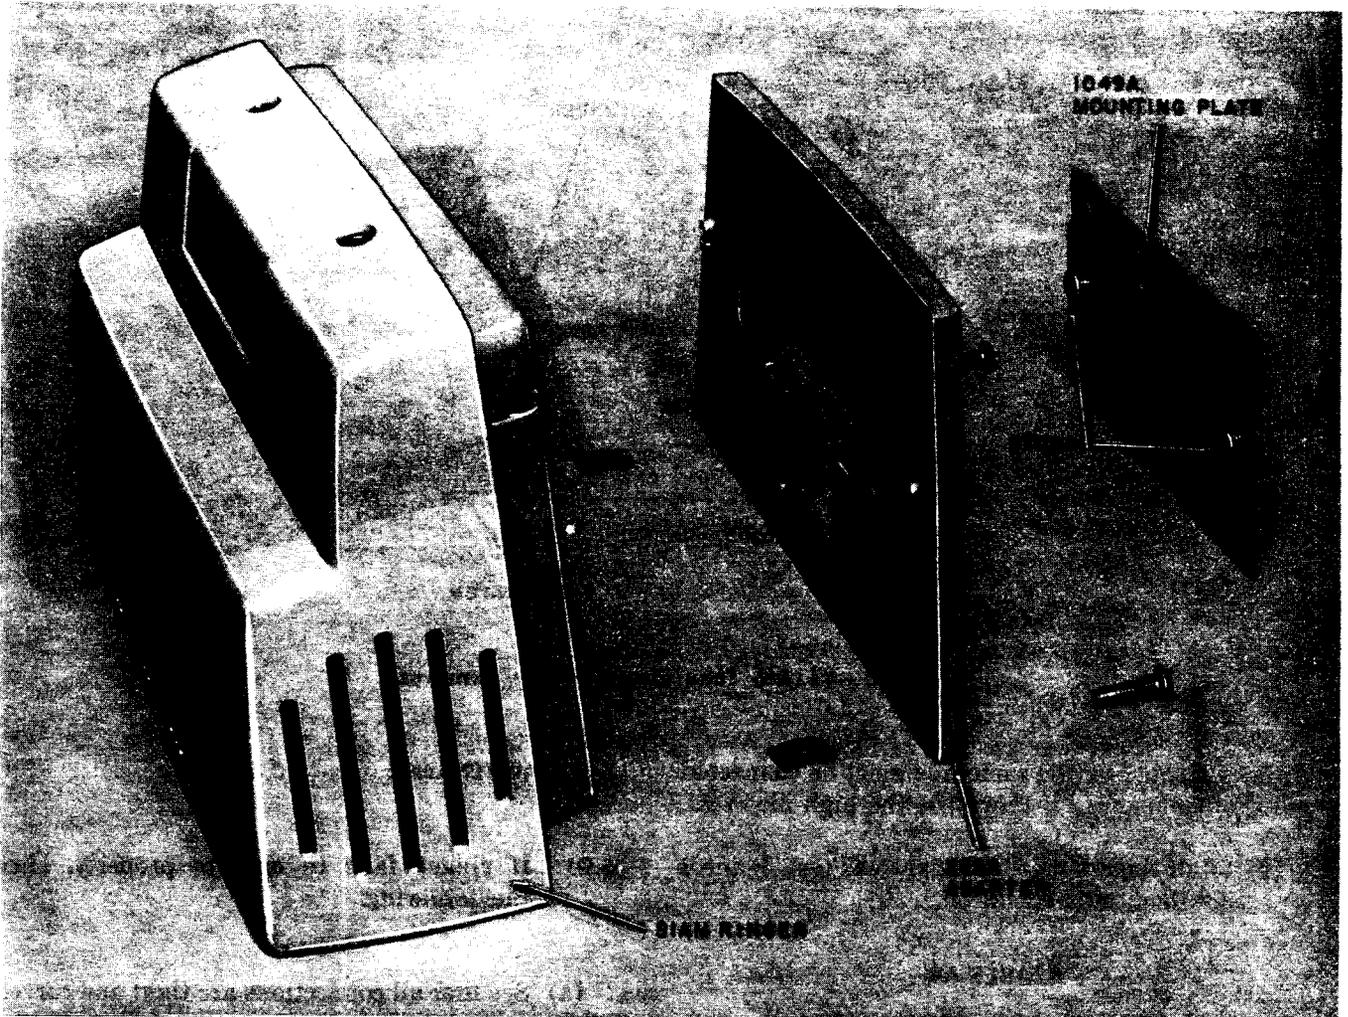

Fig. 2—♦S1AM Tone Ringer With Adapter and Mounting Plate♦
3.03 The S1AM (modular) tone ringer (Fig. 2) may be made portable by adding a 285A adapter and a 1049A mounting plate which must be ordered separately. Install the ringer as follows: